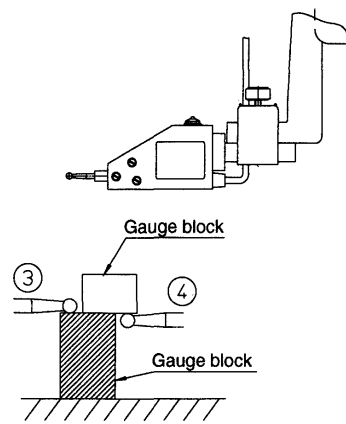

Fig. 3
- Set up two pieces of gauge blocks (20 mm or more) as shown in Fig.3 so that probing is possible in either direction. Bring the contact point into contact with the top surface at position ③. (At this time "▲" begins to blink.)
- Bring the contact point into contact with the bottom surface at position ④. (The calibrated ball diameter is displayed, blinking "PROBE".)